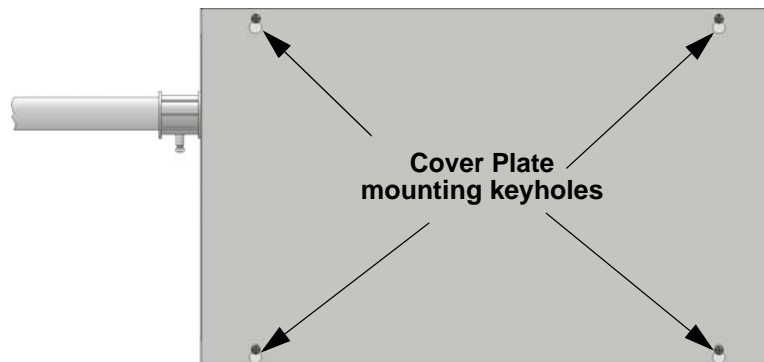

Figure 4.10 Cover Plate Mounting Keyholes and Cover Mounting Screws Alignment
6. Align the cover plate mounting keyhole over the cover mounting screws. See Figure 4.10.
7. Slide the cover into place and tighten the cover mounting screws. See Figure 4.10.